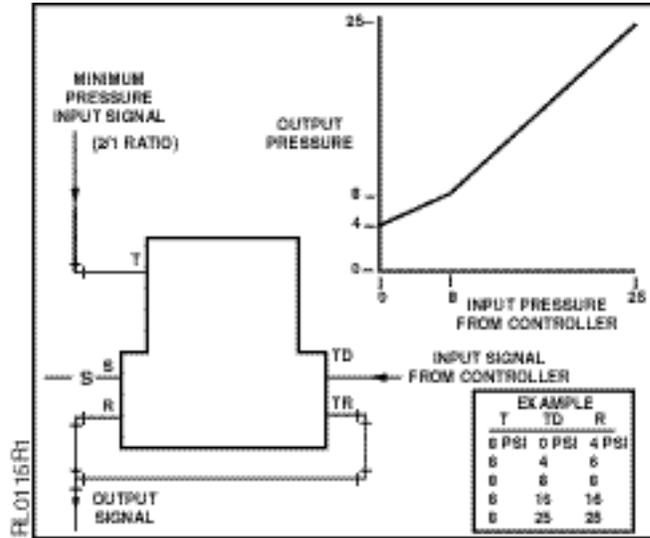

Figure 11.
- Minimum pressure relay with characterized pressure output and with remote adjustment of minimum pressure. See Figure 11.